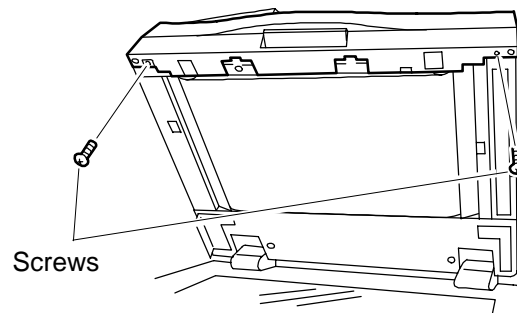

Fig. 2
- 1) Remove the 2 binding screws underneath the ADF. (Fig. 2)